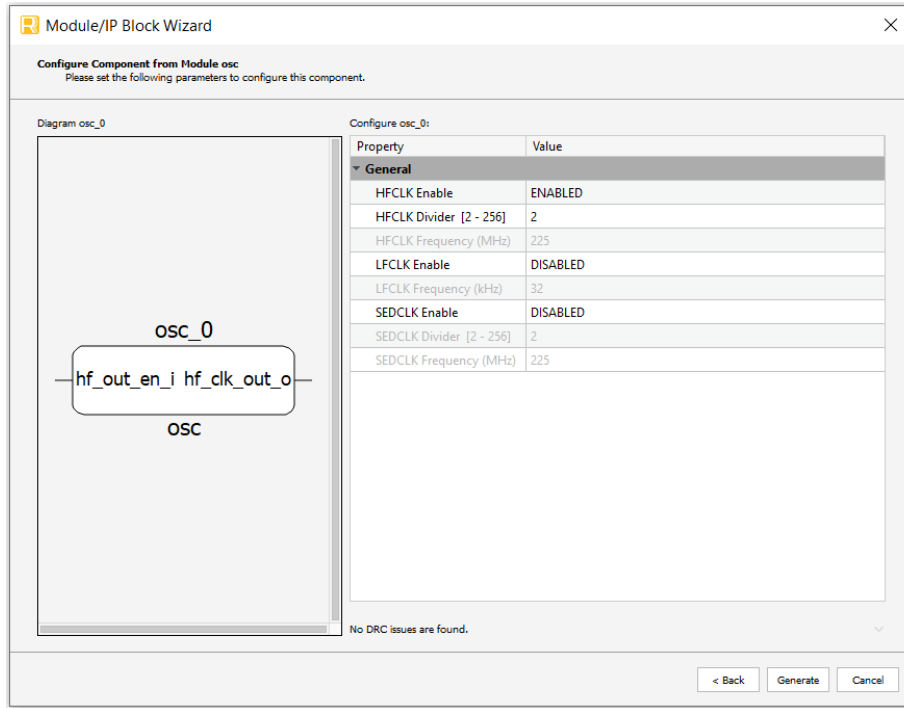

Figure 3.2. Configure User Interface of OSC Module
3. In the module’s dialog box of the **Module/IP Block Wizard** window, customize the selected OSC Module using drop-down menus and check boxes. As a sample configuration, see Figure 3.2. For configuration options, see the Attribute Summary section.
IP Generation, Synthesis, and Validation	Updated Figure 3.2. Configure User Interface of OSC Module.